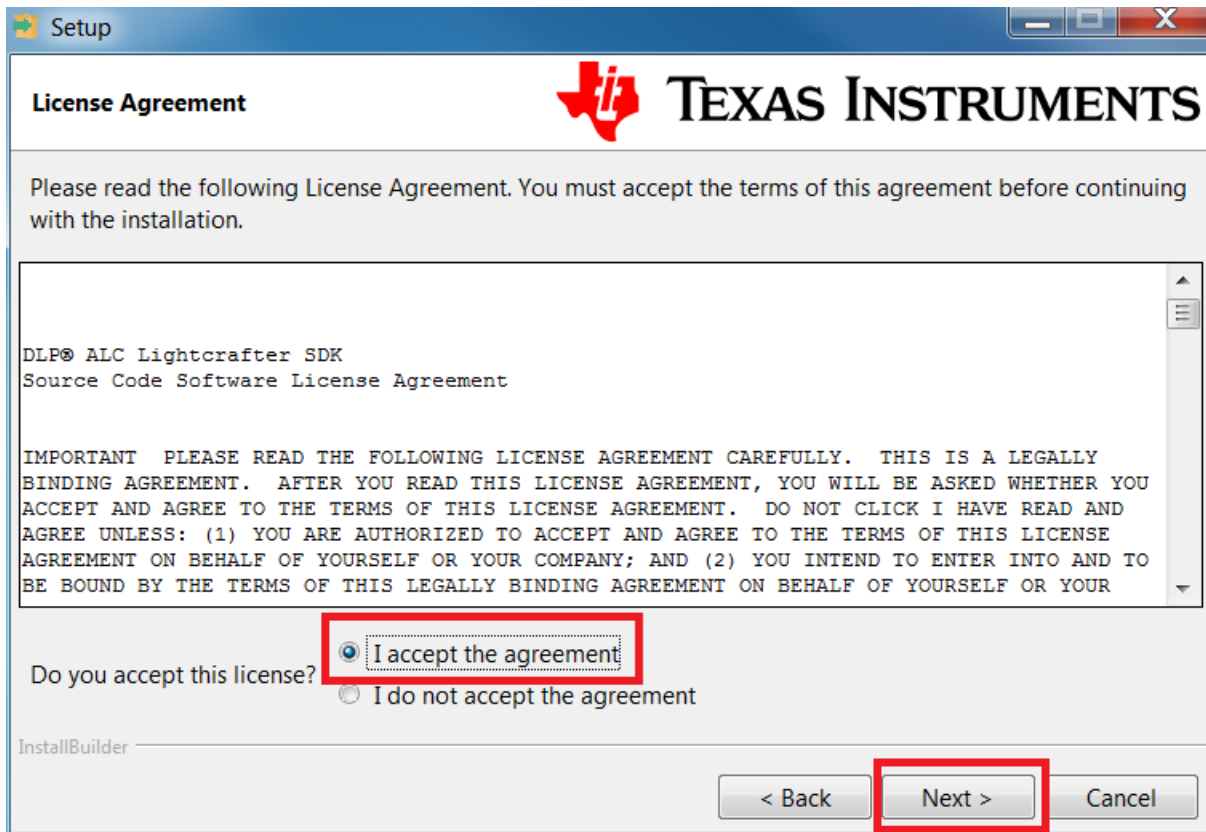

Figure 40. DLP ALC SDK Installer License
4. Accept the license agreement shown in Figure 40 and click "Next."